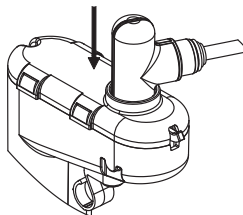

Figure 14a
- Insert the tip into the hole of the shutoff (fig. 14a).
- Insert the tip into the hole of the shutoff (fig. 14a), holding it over the sink.
- Insert the tip into the hole of the shutoff (fig. 14a), holding it over the sink